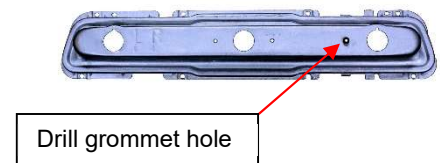

Figure 2
- 3.5. OPTIONAL: If sequential patterns are desired, drill 1 - 3/16" hole approximately 1" to the inside of the outboard bulb socket hole. (See Figure 2) The exact location of the hole is not critical. Then install provided rubber grommet into the drilled hole. One method to simplify installation is to pinch grommet, insert protruding edge into the hole, then use a small flat blade screwdriver to push/work the remaining edge through the hole.